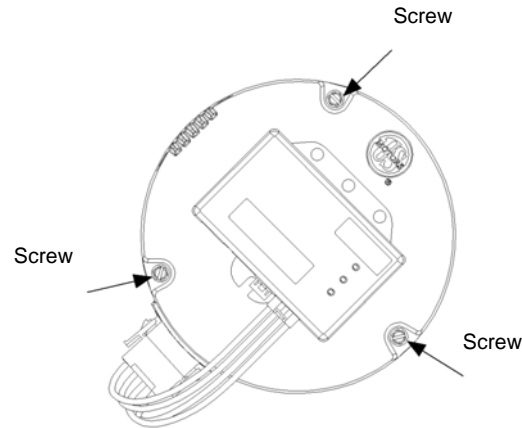
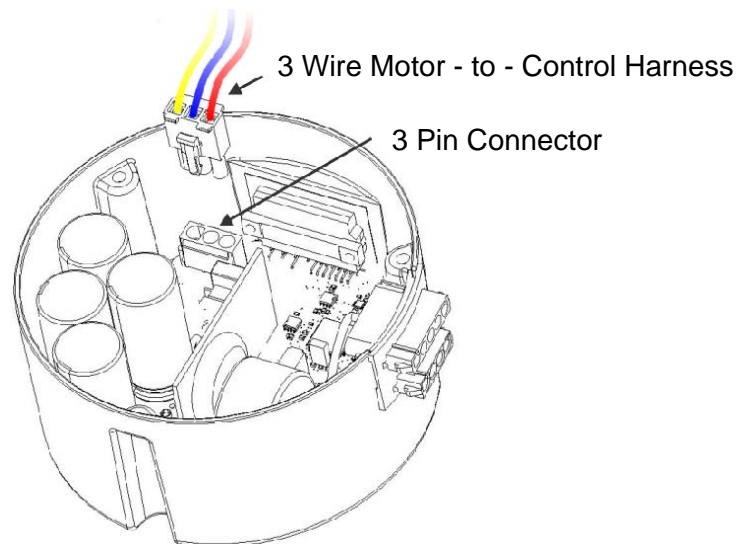

Figure 17
Figure 18
4. Grasp the control unit and pull away from motor until both units are separated [Figure 17].
5. Disconnect the 3-wire motor-to-control harness from the control [Figure 18] and remove control unit [Figure 17]. Inspect for bent, damaged, or recessed wires and terminals inside of connector.